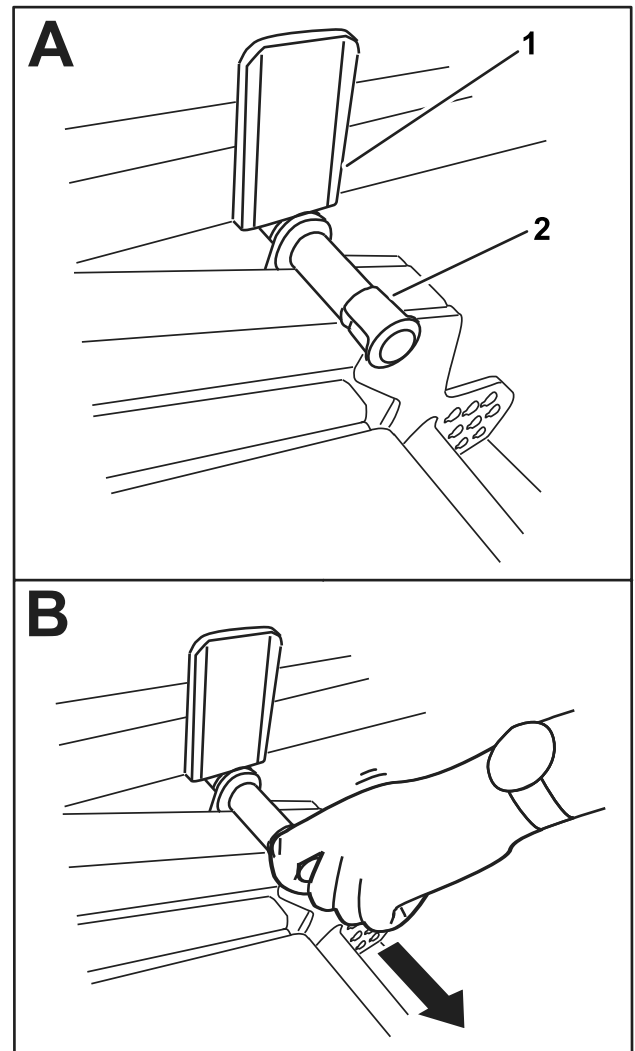

Figure 35
2. Slowly rotate the cutting unit down until the pin contacts the lift-arm plate (A in Figure 35).
3. Use your foot to press down on the cutting unit, then pull out on the pin (B in Figure 35) to let the cutting unit settle into the TRANSPORT position.